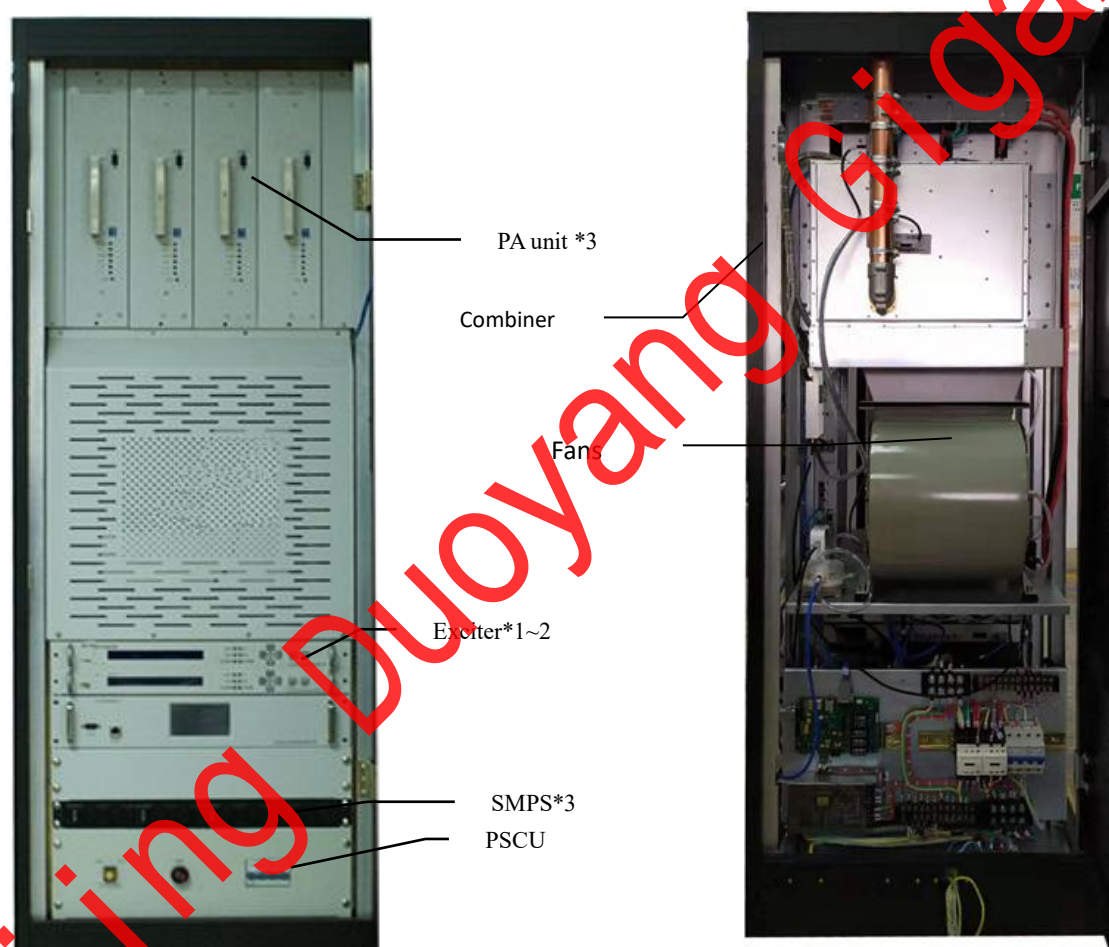

Fig.1 Front and rear view of the cabinet
1kw digital TV transmitter is mainly consisting of seven parts, i.e., exciter, amplification & control unit (ACU), power amplifier (PA) unit, central control unit (CCU), power supply control unit (PSCU), switching mode power supply (SMPS), passive components (divider, combiner, filter, directional coupler, etc.) and cooling system. Its appearance and internal structure are shown in Figure 1.